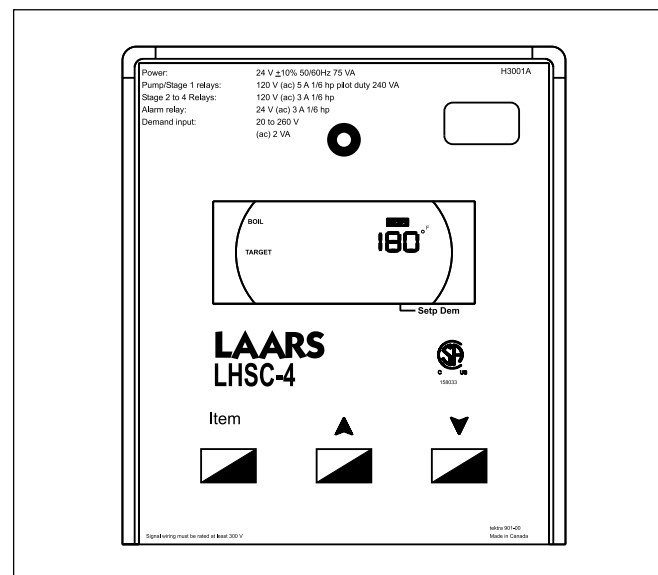

Figure 25. Temperature Control.
There are three black programming buttons on the Temperature Control (see Figure 25). Press and hold all three programming buttons until the word **ADJUST** appears in the upper right corner of the LCD display (it replaces the word **VIEW**).
The control also evaluates the sensor(s) installed in the system. If the control is not in warm weather shutdown (WWSD), and the sensor(s) are below the target temperature, the “Dem” segment is turned on in the display. The control energizes the pump (on pump mounted boilers) and energizes both “PMP” terminals. The pump symbol appears in the display (see Figures 25 and 26). The control then operates the stages to maintain the setpoint temperature.
Step 2: Press the three programming buttons to enter **ADJUST** mode (Figure 25). Press **ITEM** to select the programming item, and the arrow keys to adjust the setting. **TARGET TANK** is desired tank temperature. Recommended settings with a desired tank temperature of 125°F:
Step 3: Press the three programming buttons to enter **ADJUST** mode (Figure 25). Press **ITEM** to select the programming item, and the **ARROW** keys to adjust the setting. See Section 6.3 *Programming the Temperature Control* if more programming instructions are needed.